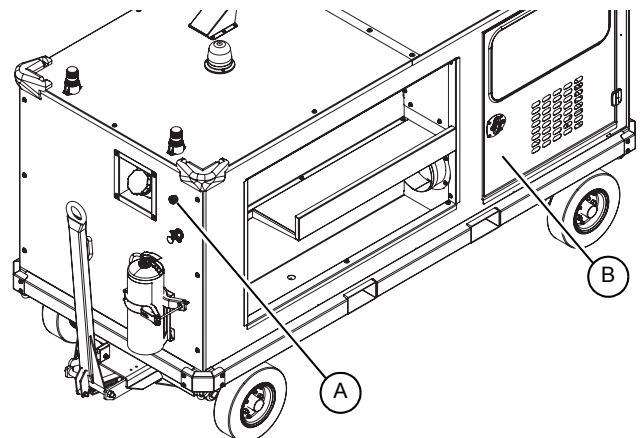

Figure 3-2. E-Stop Switch Locations
See Figure 3-2. The unit is equipped with two emergency stop (E-stop) switches. One is on unit exterior (A) and one is inside the unit—behind door (B), on the control panel.